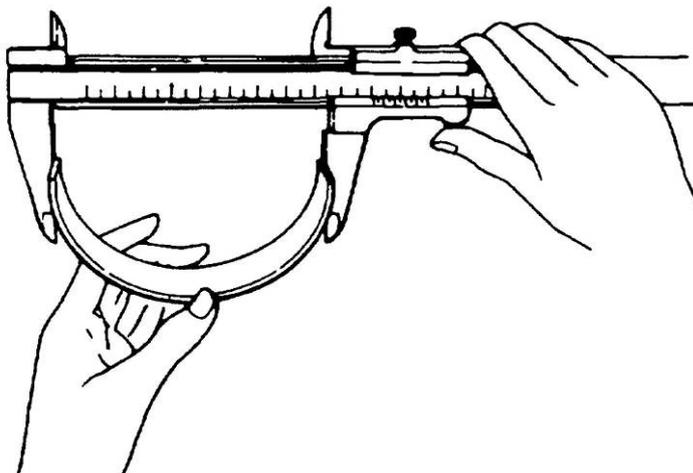

Figure 26 Measuring the Bearing Spread
- n. Before installing new bearings, check the bearing spread (Figure 26). The spread limit for main bearings is 85.0 mm (3.35 in) and for the connecting rod big-end 68.0 mm (2.68 in). Install each half of each bearing into its respective position and check that a slight pressure is required to seat the bearing. Replace the set if the bearings are not to specification.